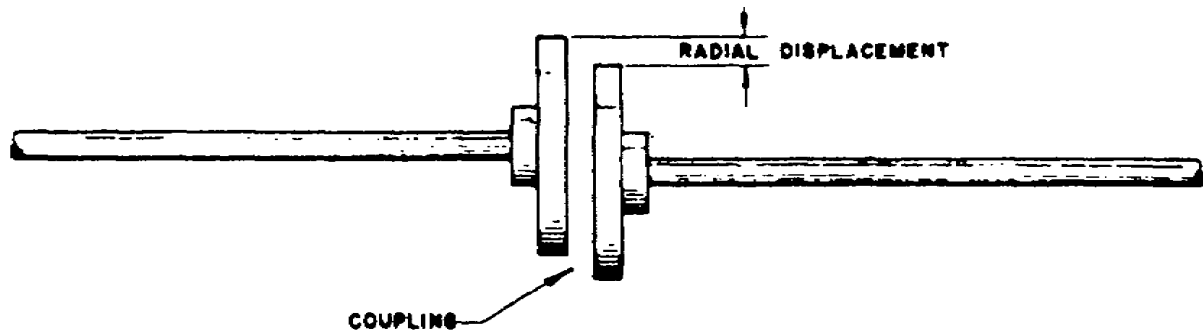

Figure 2.2. Radial Misalignment.
a. Radial misalinement. When the centers of the two shafts do not coincide, radial misalinement occurs. The displacement, illustrated in figure 2.2, causes excessive vibration and wear within the coupling because of radial movement of the two halves of the coupling with respect to each other. This displacement also causes pulsating loads on the bearings, shortening their life.